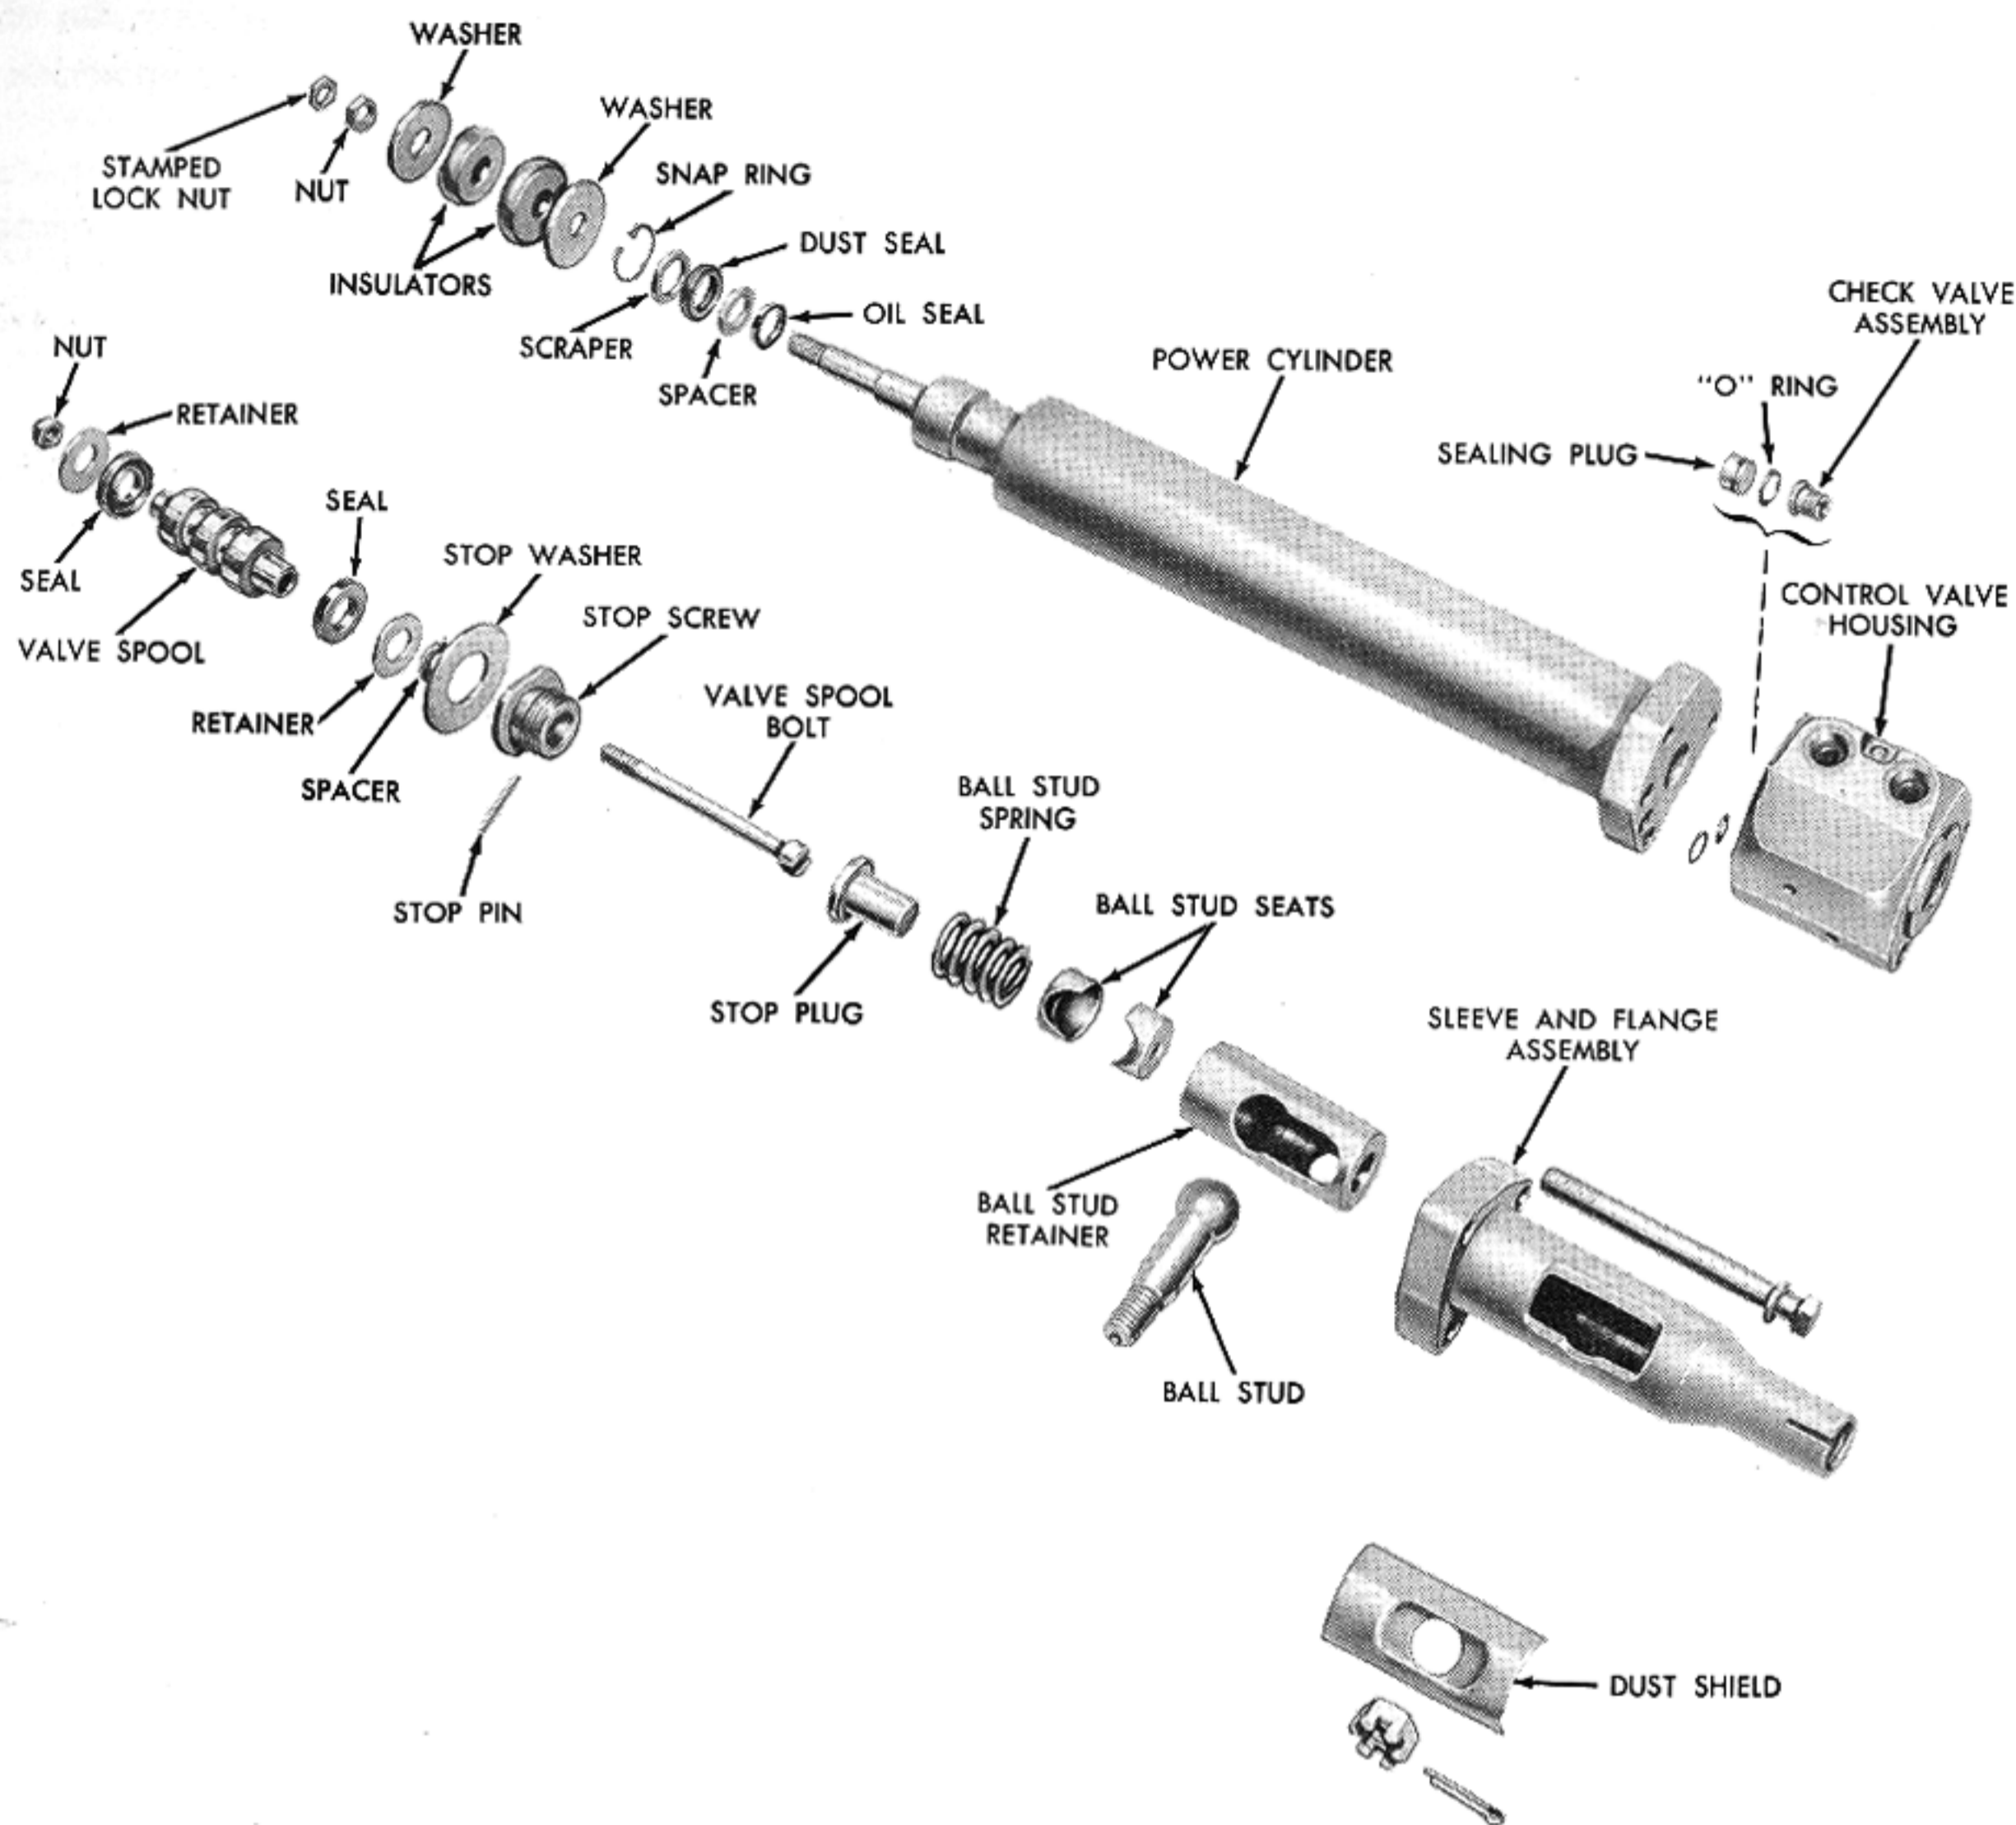

Figure 13—Control Valve and Power Cylinder in Assembly Sequence
The control valve is shown disassembled in Figure 13. The valve is assembled as follows:
2. Position the ball stud seat at the closed end of the ball stud retainer, then position the retainer in the sleeve and flange assembly. See Figure 13.
The assembly sequence for the power cylinder is shown in Figure 13.